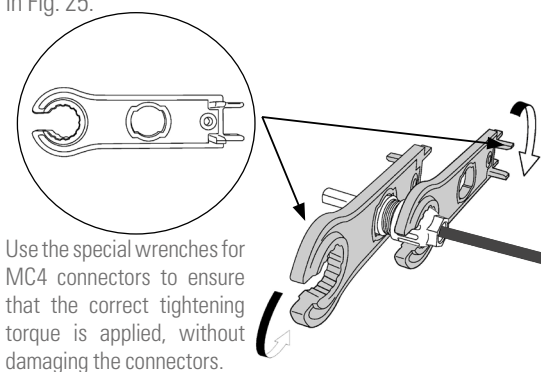

Fig. 25. Using an open-end wrench.
- f. Use an open-end wrench to screw the nut all the way in and make sure that the terminal is sealed well, as shown in Fig. 25.